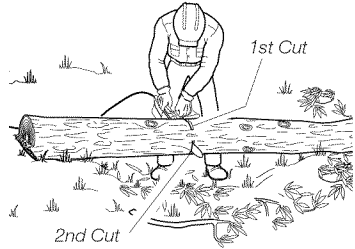

Figure 12 - Bucking Log When Log Is Supported On Both Ends
1. Make first cut from above log (see Figure 12). Cut 1/3 through diameter of log. This cut will keep section from splintering when cut.